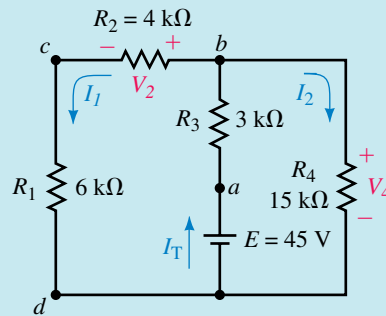

FIGURE 7-38
- a. We begin by constructing the circuit as shown in Figure 7-39. This circuit is identical to that shown in Figure 7-38, except that the voltage source has been omitted and a multimeter (from the Instruments button on the Parts bin toolbar) inserted in its place. The ohmmeter function is then selected and the power switch turned on. The resistance is found to be $R_T = 9.00 \text{ k}\Omega$.